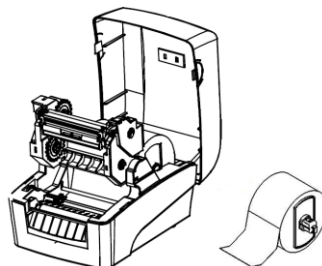

Figure 2.2.5
- 4) Place the paper roll on the holder into the paper cabinet, pull out the front end of paper and spread it in the print path, and then lead the paper go through under the buffer shaft and finally clamp the paper pulled out with the left and right paper guides (see figure 2.2.5).